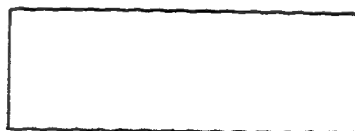

Fig. M10
4. When the scope display is as shown in Fig. M8, adjust the height of [2] so that the waveform looks like Fig. M10.
5. When the scope display is as shown in Fig. M9, adjust the height of [3] so that the waveform looks like Fig. M10.
6. When [2] and [3] are adjusted properly, there is no Envelope Drop at the beginning and end of track as shown in Fig. M10.